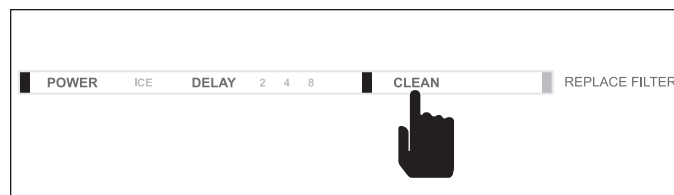

Figure 4-5. Start Sanitize Cycle, Press “CLEAN”
5. Press the CLEAN button again, this time to start the sanitize cycle (See Figure 4-5).